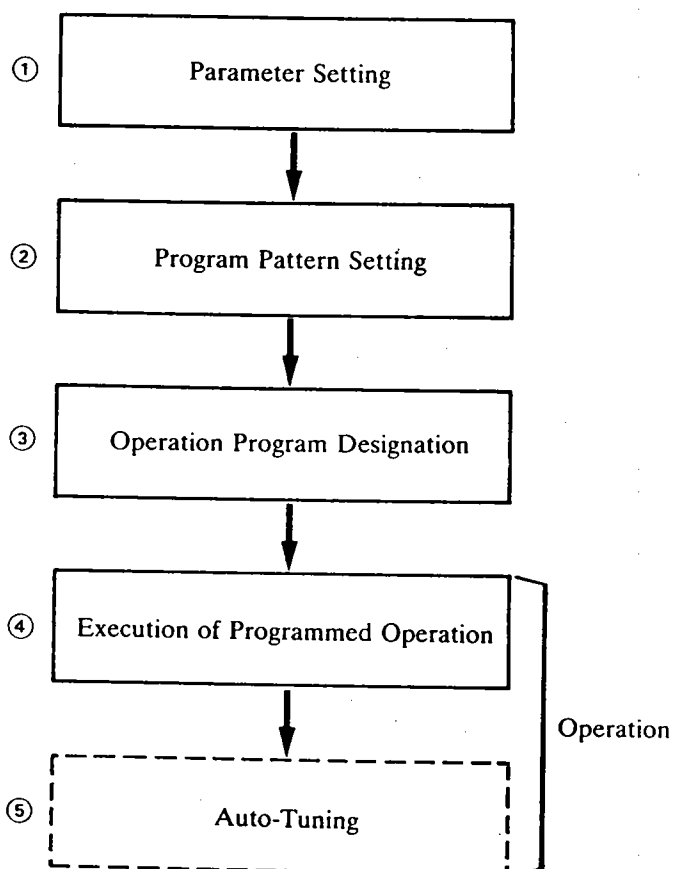

Figure 9.1 Outline of Programmed Operation
For programmed operation of UP40 Controller, it is required to complete settings shown in ①, ②, and ③ in Figure 9.1. After setting, the controller is operated as shown in ④ and ⑤ in Figure 9.1.